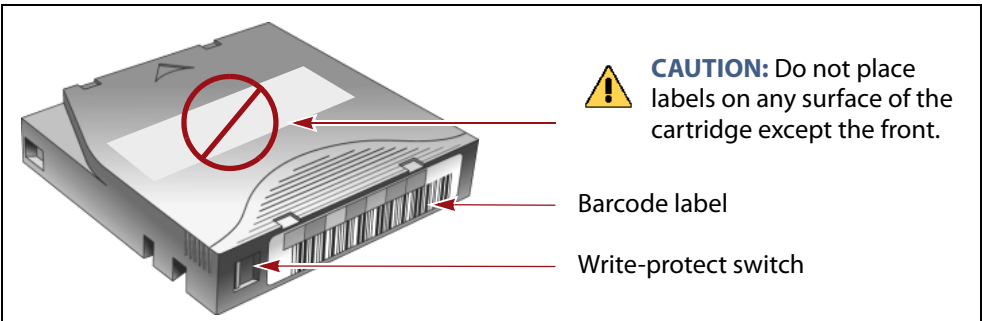

Figure 108 Attach barcode labels to cartridges and check write-protect switch setting (LTO cartridge shown.).
- 1. If your cartridges are unlabeled, prepare and affix a barcode label to each cartridge. Position each label in the indented area on the cartridge, as illustrated in Figure 108. See Barcode Label Specifications on page 507 for detailed information about barcode labels.
Do not place labels on any surface of the cartridge except the area shown in Figure 108. An improperly positioned label can become dislodged and damage the drive.